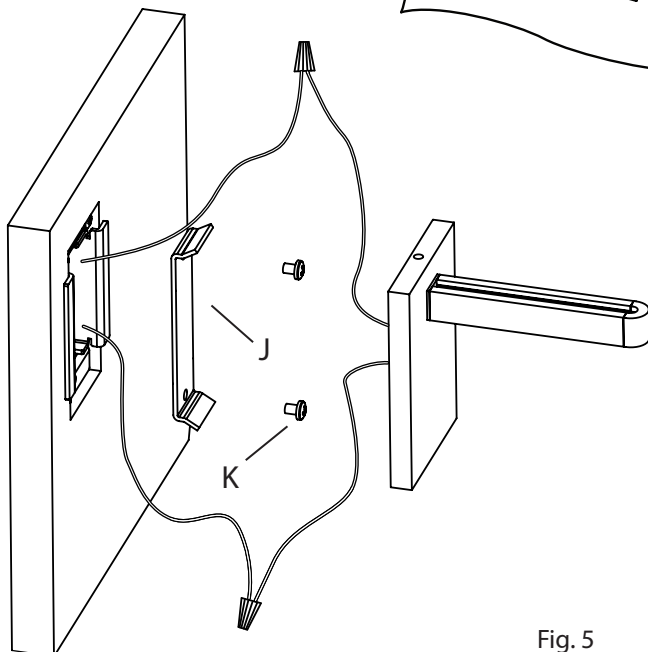

Fig. 5
18. Make appropriate electrical connections using wire nuts: Connect one of the black Power Feed wires to one of the transformer output wires. Connect the other black Power Feed wire to the second transformer output wire. Carefully place connections in the Minibox. (Fig. 5)
19. Attach mounting bracket (J) to Minibox with two mounting screws (K). (Fig. 5)